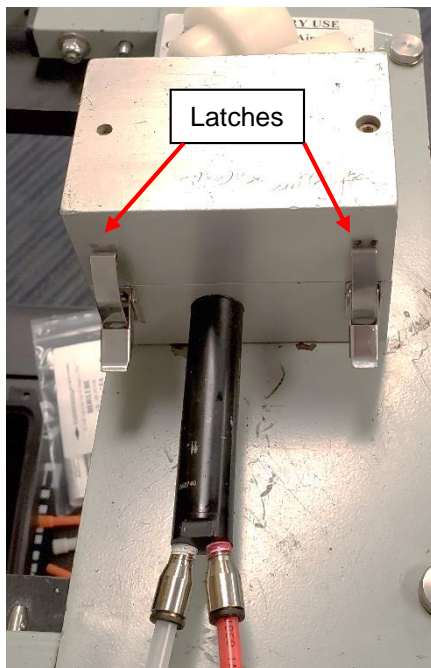

Figure 21
10.1 Open hinged top half of Blowing Head by releasing two latches. **See Fig. 21.**